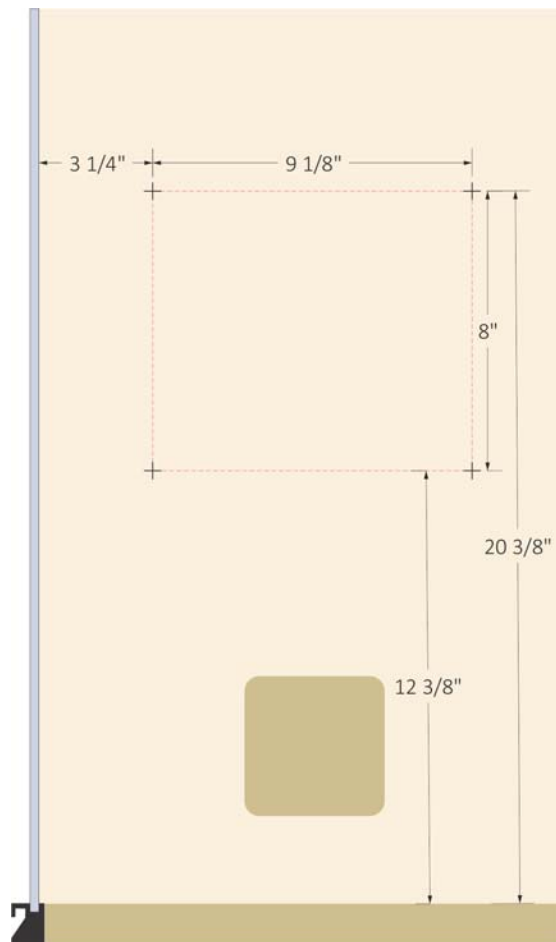

Figure 20. Heater Mounting Measurements
71. Using the measurements provided in Figure 20, verify the position of the pre-drilled mounting holes for the heater.
72. Install the four (4) lag bolts (included with the heater) into the wall for mounting the heater.
74. Hang the heater onto the four (4) bolts, then tighten the bolts to the wall.